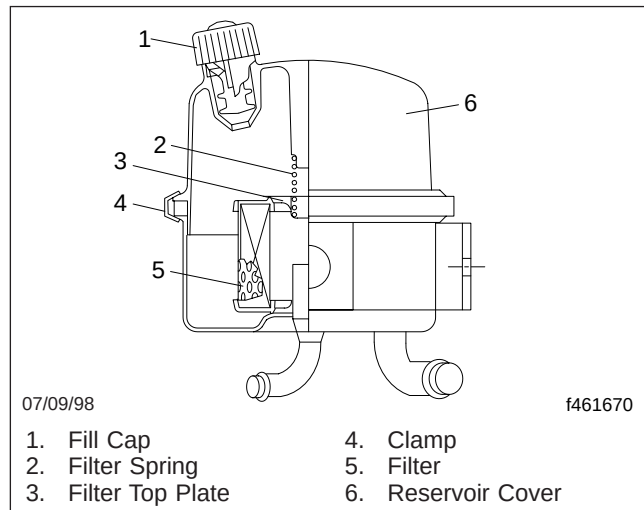

Fig. 2, Power Steering Reservoir and Filter, Argosy COE
- 4.1 Remove the clamp that holds the cover on the reservoir. See Fig. 2. Remove the cover.
2. With the engine cool, use a shop towel or clean rag to clean the area around the power steering reservoir fill cap. See Fig. 1 or Fig. 2. Twist the cap counterclockwise to remove it. Check the cold power steering fluid level. The level should be between ADD COLD and FULL COLD with the engine off.